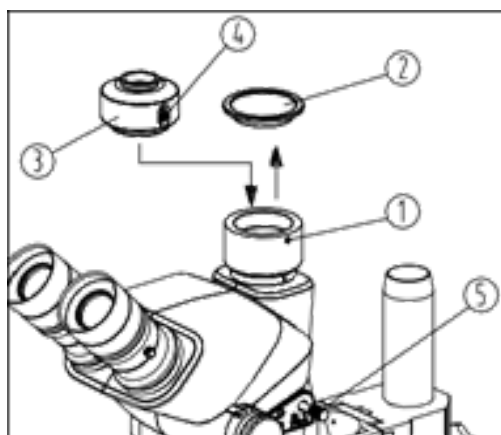

Fig.9
1. Loosen the lock screw (1) of trinocular head, and remove the dust-cover (2) (See Fig. 9).
2. Remove the dust-covers of the c-mount adapter (3). Insert the c-mount adapter into the trinocular head as shown in the figure and tighten the lock screw (1).
3. Connect the CCD or camera to the adapter (3).
4. For binocular observation, after the image is clear, pull the light path selection lever (5) out, to observe the image. If the image is not clear, loosen the lock screw (5), and adjust the focusing screw (4) until the image is clear, then tighten the lock screw.